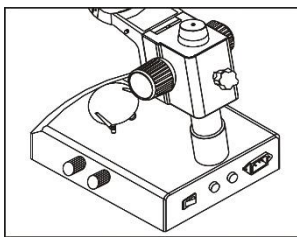

Fig. 2
- 2) The suitable position of the tightness can make the adjustment more comfortable and prevent the focusing bracket from slipping down by its weight during the observation. (Fig. 2)